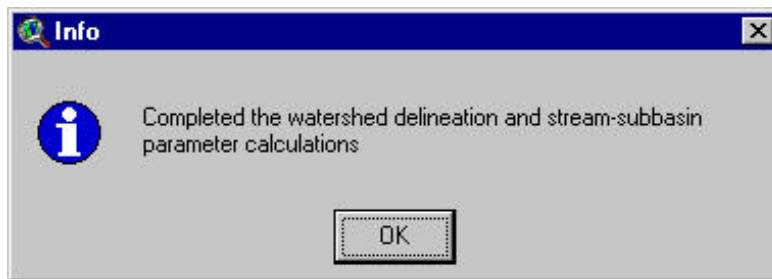

Figure 5.54
3. When all parameters are calculated, a dialog box appears (Figure 5.54).